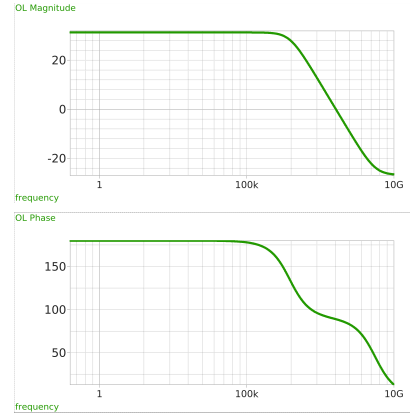

Figure 9: Xschem testbench inverter\_tb\_ac\_ol (open-loop ac characterisation on inverter).
- inverter\\_tb\\_ac\\_ol.sch, open-loop ac characterisation (see Figure 9),